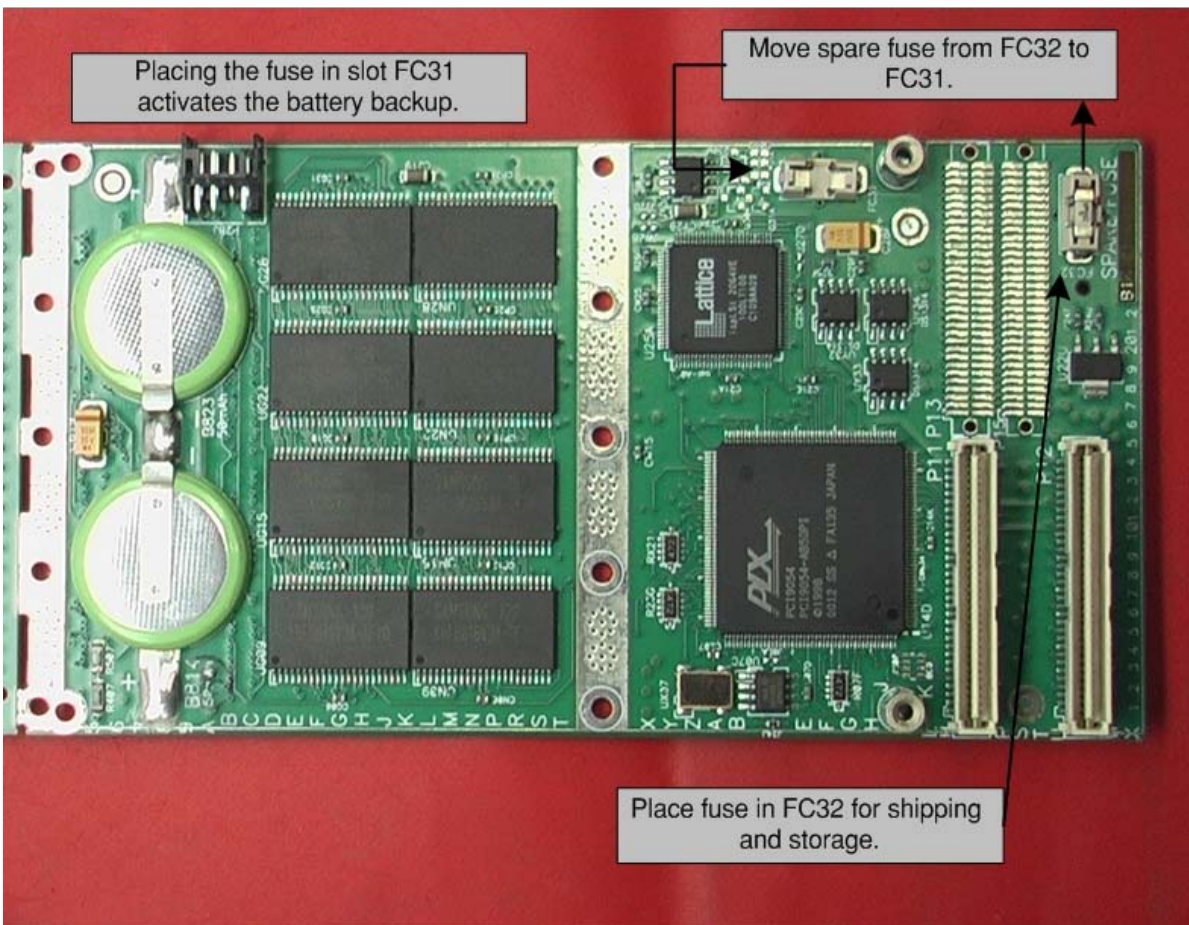

Figure 3. Fuse Installation
3. With the component side of the PMC facing up, relocate the fuse from the Fuseblock (spare) to the Fuseblock (jumper, battery backup) (see Figure 3).